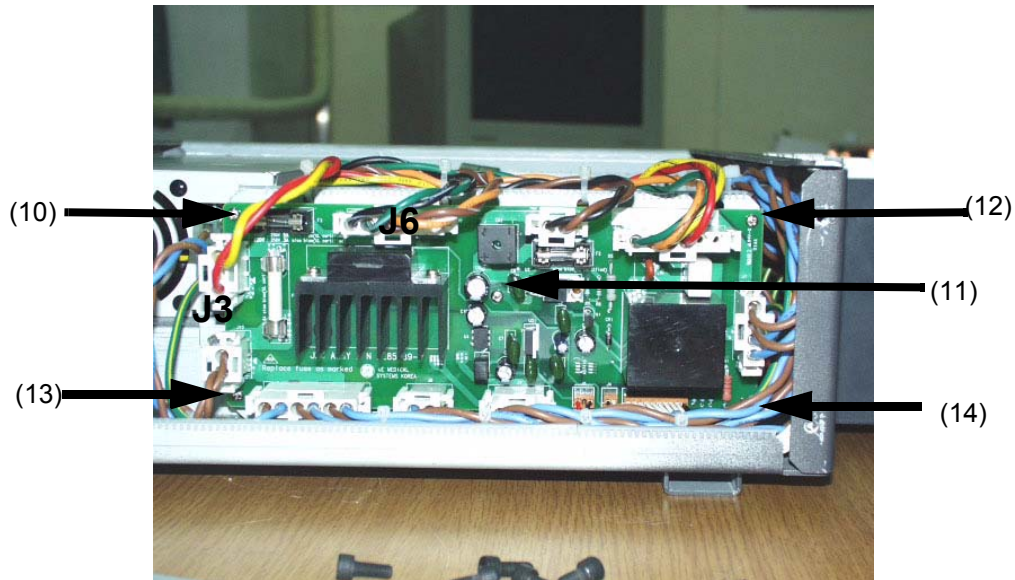

Figure 8-130 Disconnecting all connectors
3.) Disconnect all the connectors connected in the JPC Assy. Refer to Figure 8-130 on page 8-80 ..